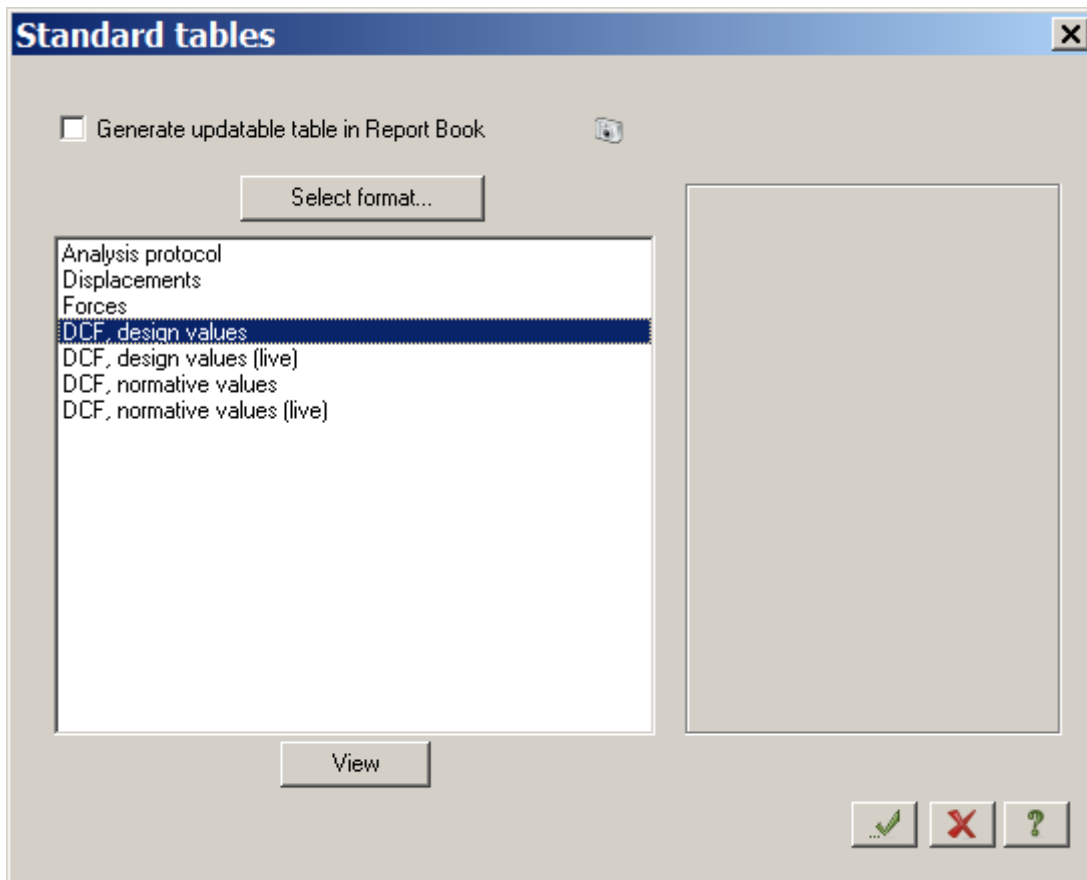

Figure 6.21 **Standard tables** dialog box
- ⇒ In the **Standard tables** dialog box (see Fig.6.21), select **Design combinations of forces, design values** in the list.